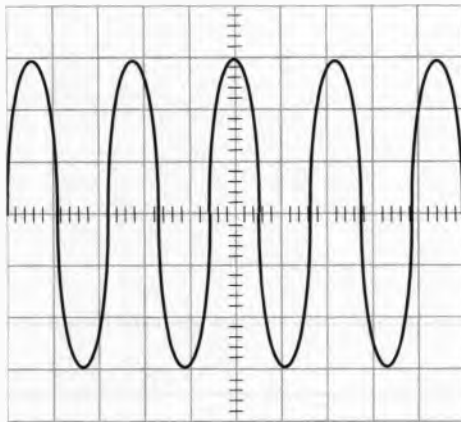
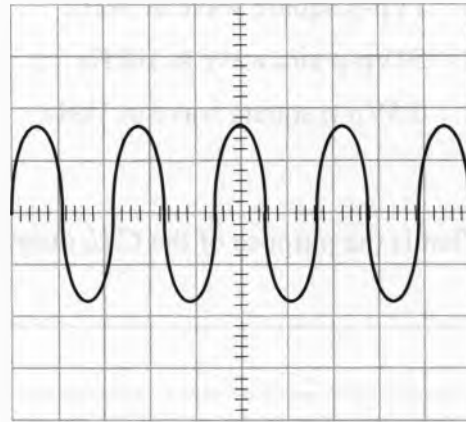

Figure 3
Figure 4
4. What oscilloscope control would you adjust to change the display from Figure 3 to Figure 4?